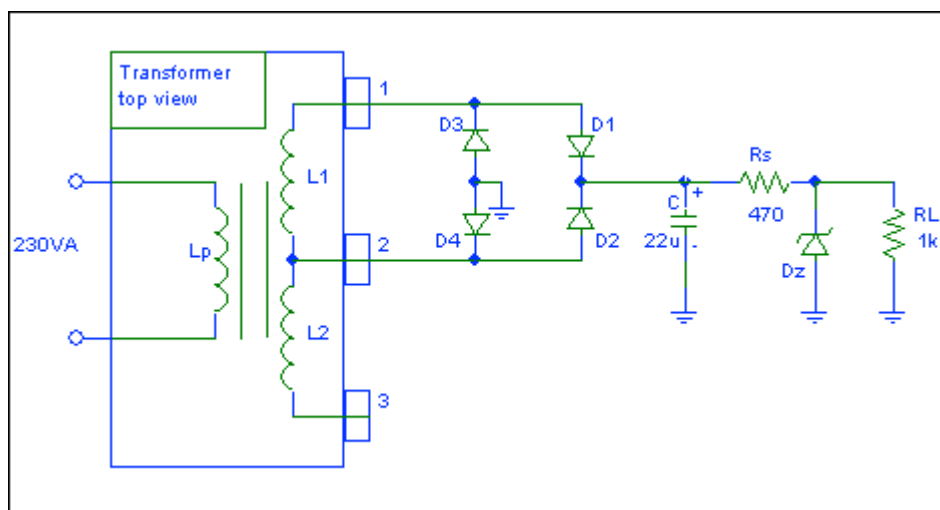

Fig. 6 Diode-bridge full-wave rectifier with Zener diode voltage regulator.
1. Solder the circuit illustrated in fig. 6.